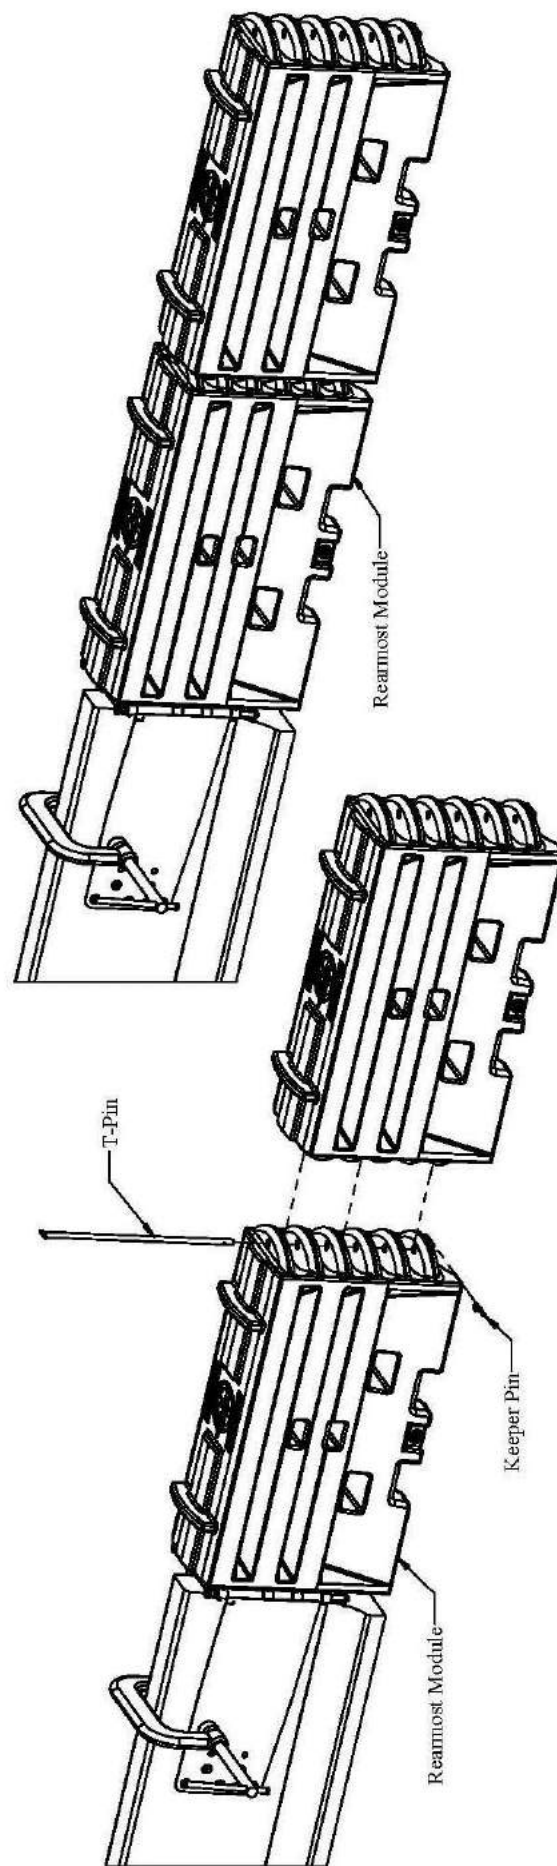

Fig. 1
Install the next Yellow Water Filled Module by pushing this Module into the already installed rearmost Yellow Water Filled Module, such that the knuckles of each Module are positively interlocked and the holes are aligned. Be sure to mate up the five (5) knuckle Module end with a six (6) knuckle Module end. Insert the T-Pin from the top until the T-Pin contacts the ground. Secure the connection between Modules by inserting the Keeper Pin (R-Clip) through the small through hole near the bottom of the T-Pin. (Fig. 1)